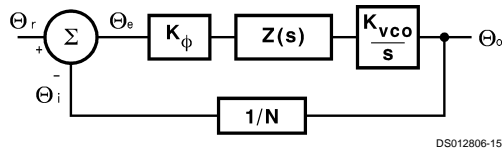
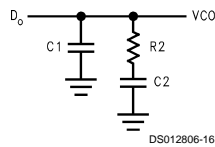

FIGURE 2. PLL Linear Model
FIGURE 3. Passive Loop Filter
A linear control system model of the phase feedback for a PLL in the locked state is shown in *Figure 2*. The open loop gain is the product of the phase comparator gain (K_ϕ), the VCO gain (K_{VCO}/s), and the loop filter gain $Z(s)$ divided by the gain of the feedback counter modulus (N). The passive loop filter configuration used is displayed in *Figure 3*, while the complex impedance of the filter is given in *Equation (1)*.